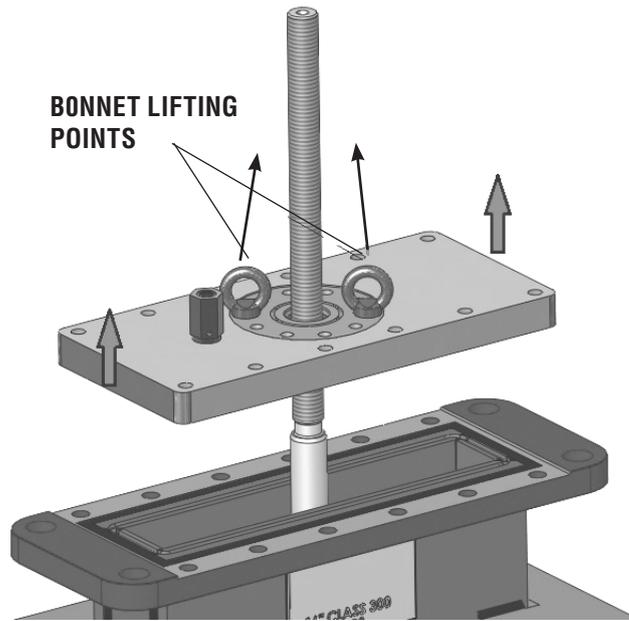

**Figure 8 - Yoke bolting removal**
8. Remove the yoke flange bolting as shown in Figure 8